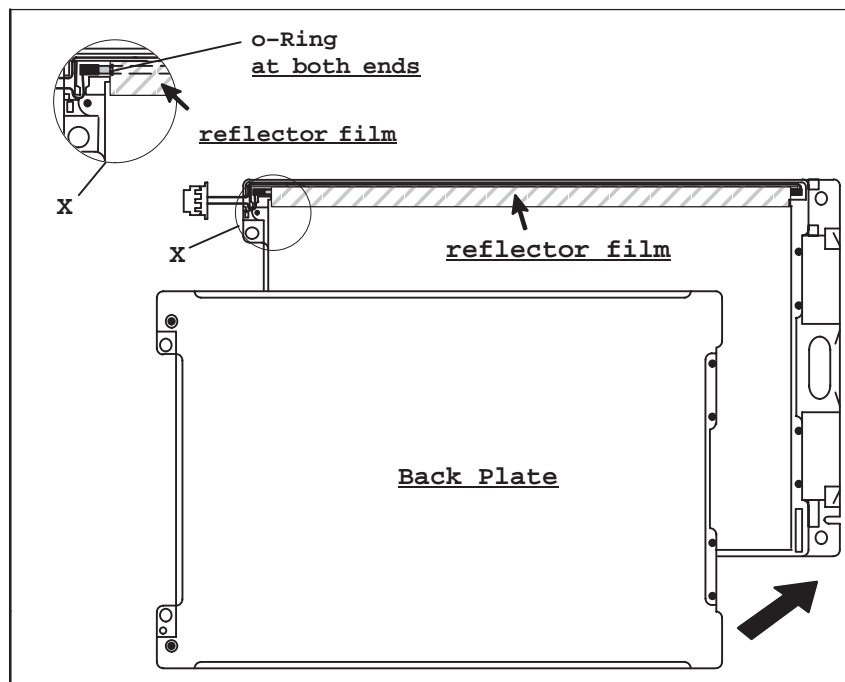

Figure 1-10 Reassembly
- Reassemble the rear panel of the display (see Figure 1-10) and replace the 6 screws.